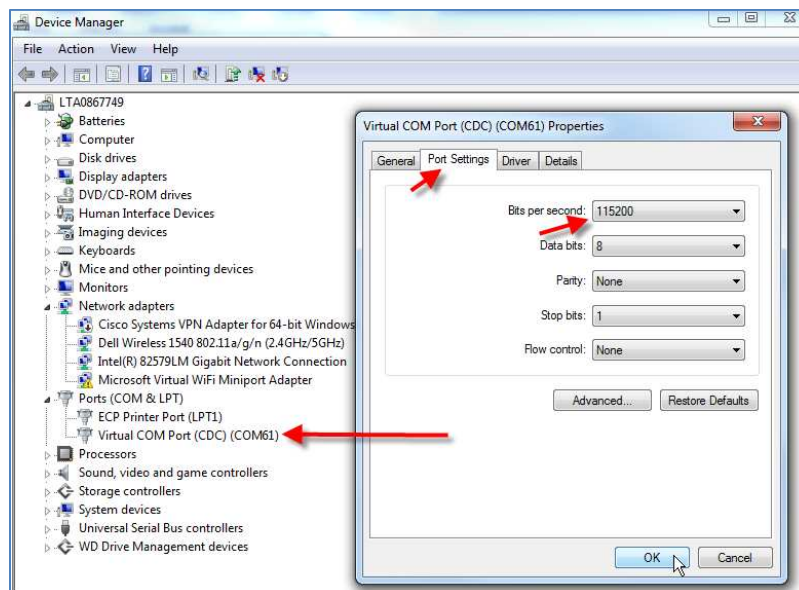

Figure 18.
1. Proceed to the Device Manager from the PC Control Panel to determine which COM Port the board has enumerated; that port information is needed to configure the COM port correctly. This step will only need to be done the first time the board is enumerated on a given PC system. The board will enumerate as a virtual COM port (USB CDC). in the example shown in Figure 18 the virtual COM port is shown as COM61.